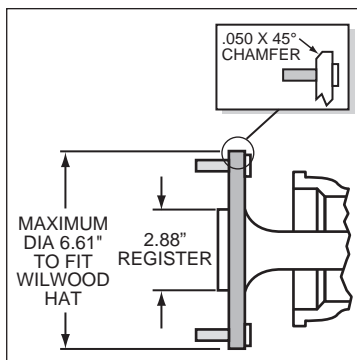

Figure 3. Axle Flange Maximum Dimension
- Axle center register diameter is 2.88", Figure 3. This kit uses Wilwood's removable center register adapters. Rotors can either be centered on the axle register, i.e. *register-centric* or centered on the wheel studs, i.e. *stud-centric*. Due to variations in wheel stud final diameters, *register-centric* centering can be a more accurate method of centering the rotor to the axle. Wilwood offers various diameter adapters for purchase in addition to the ones supplied in this kit, see Table 1.
- Maximum axle flange diameter must be no larger than 6.61" w/.050" x 45° chamfer, Figure 3.